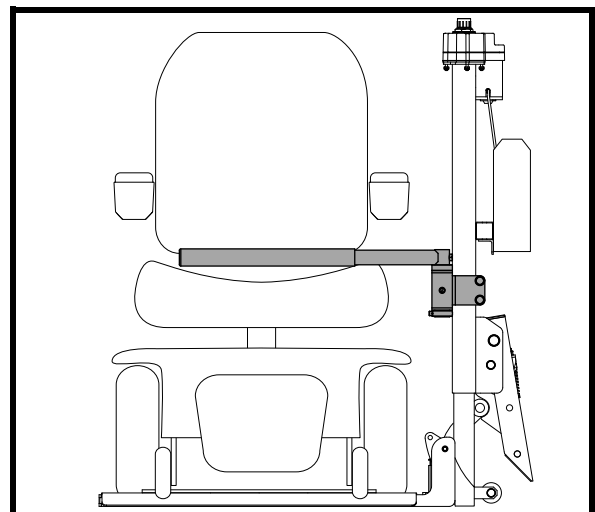

Figure 18. Power Chair Hold-down Bar
**NOTE:** The Outlander LP is the only model that provides a hold-down bar to secure power chair products during transport as a standard feature. See figure 18.